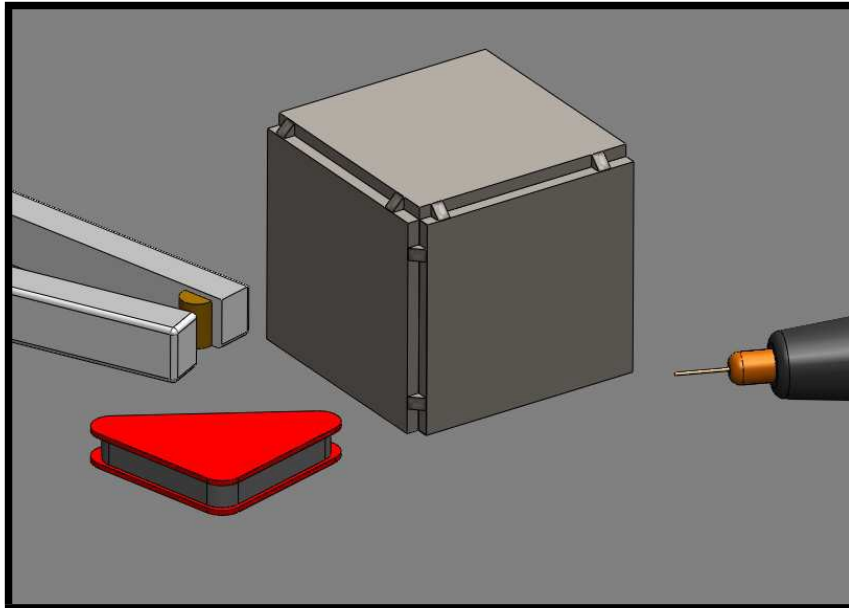

Figure 9: Complete the cube by tacking the top and bottom pieces on
Step 11: Tack a coupon to the top and bottom of the piece as shown in Figure 9 completing the tacked cube.